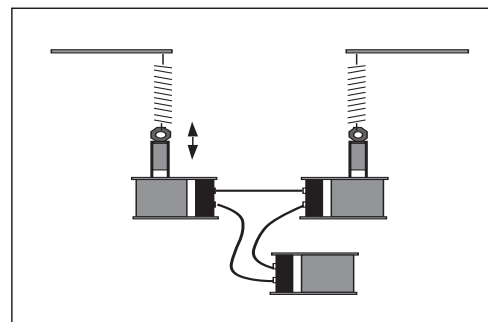

Figure 3
7. PREDICTION 5: What will happen if you insert another coil into the circuit, as shown in Figure 3? Try it. Does it make a difference if different coils are used? Try it.